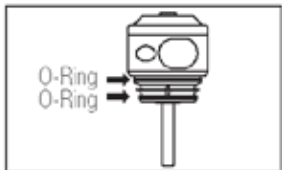

Fig. 10
- Check that the O-Rings are placed correct position and then install the cartridge.(Fig.10)
Worn or damaged O-ring may cause air or water to leak. When water is found in the exhaust air or water leak from the coupled point, replace four O-rings as shown in Fig.10